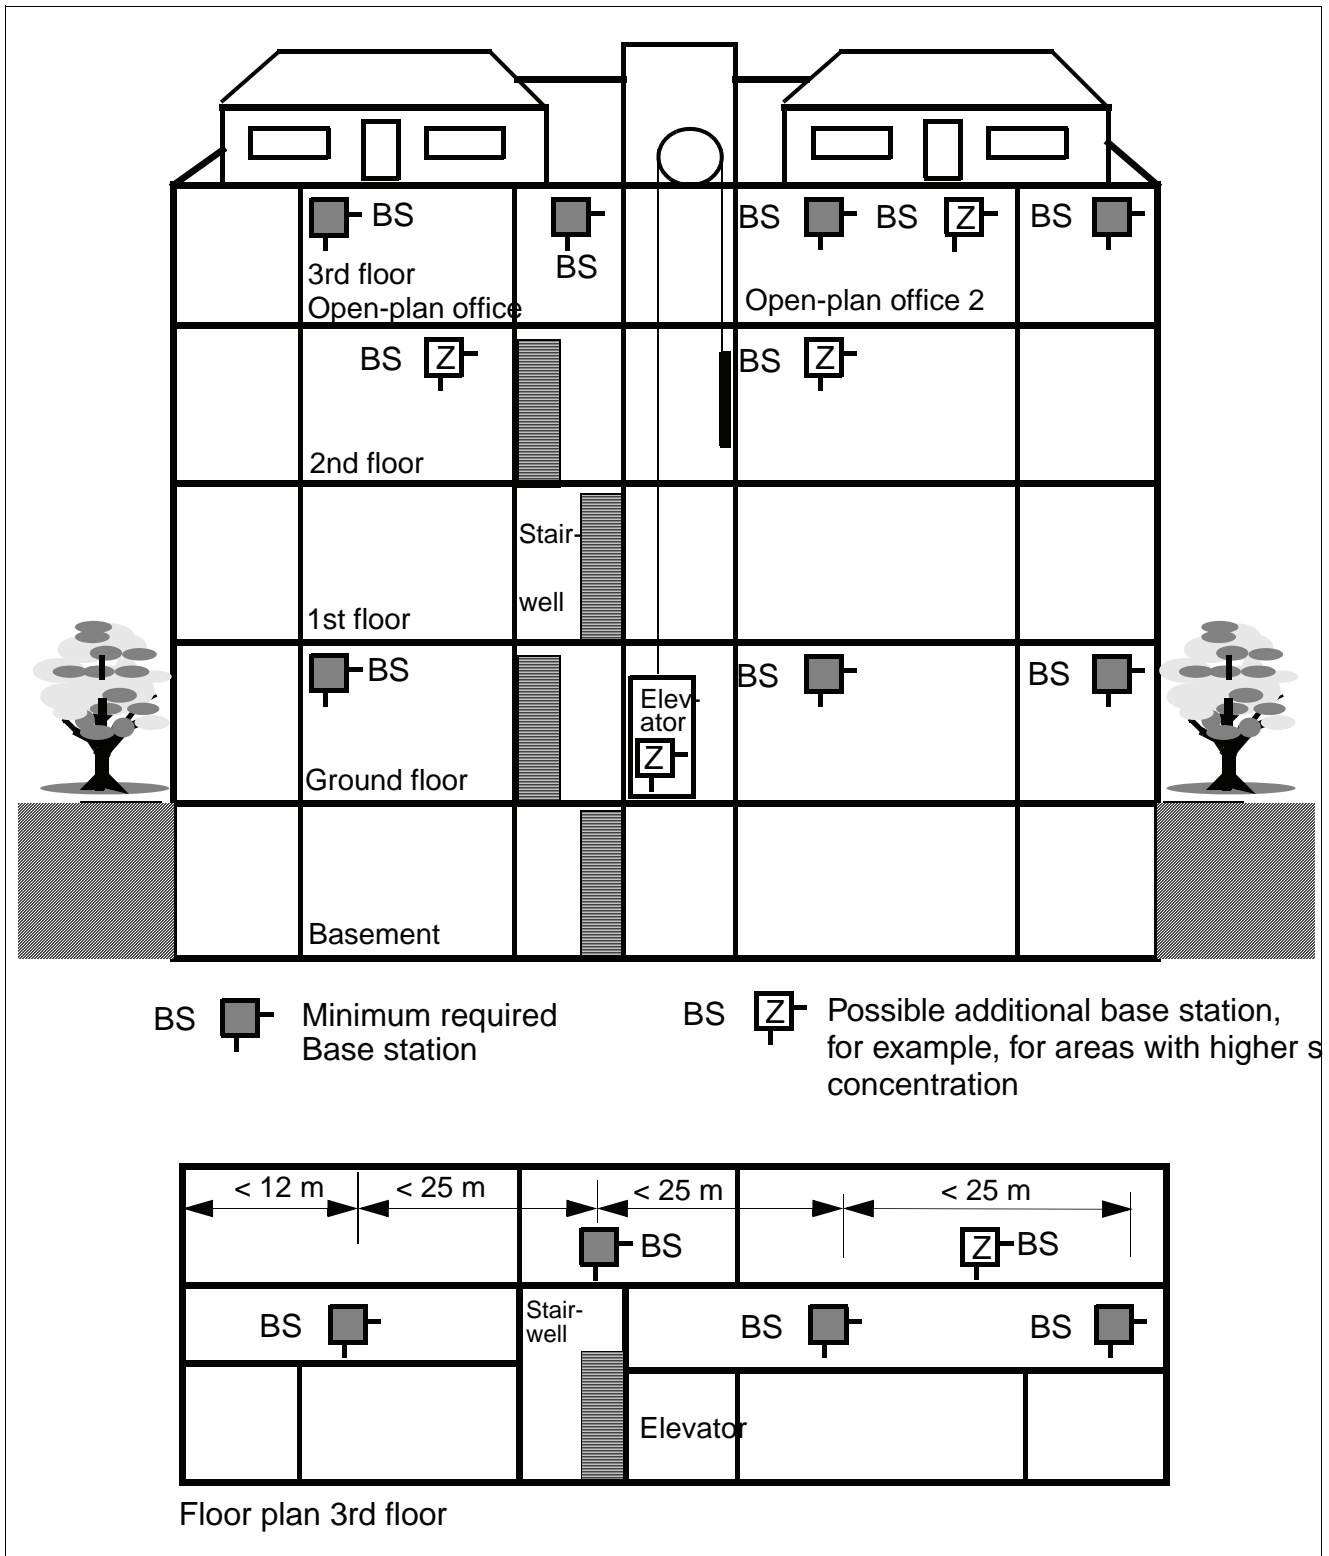

Figure 11 Base station distribution in interiors with concrete and steel dividing walls
- For interiors with concrete and steel dividing walls (Figure 11)
- If additional base stations are needed because of a large number of mobile telephones, see Figure 11.